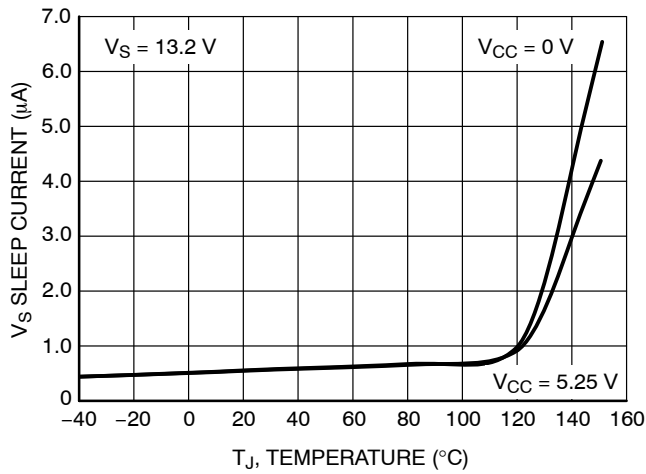

Figure 4.  $V_S$  Sleep Supply Current vs. Temperature
5. For temperatures above  $85^{\circ}\text{C}$ , refer to Figure 4.